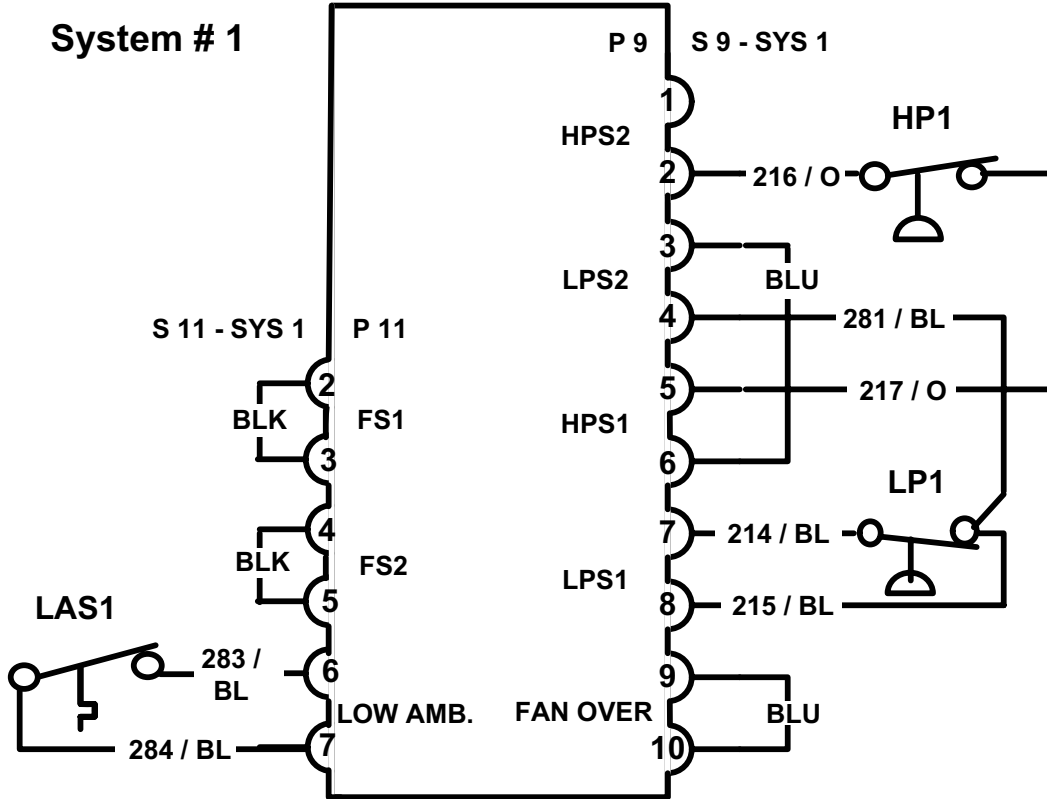

FIGURE 9 - LAS - LOW AMBIENT SWITCH
8. Remove existing low ambient switch (LAS) and replace with new 0°F low ambient switch (provided). See Figure 9.